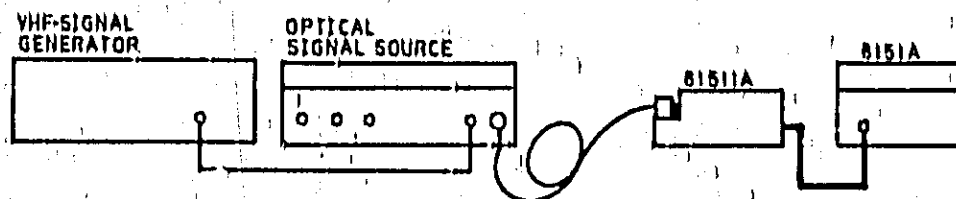

Figure 4-9. Test setup for VHF measurement flatness tests
10. Connect the equipment as shown in Figure 4-9.